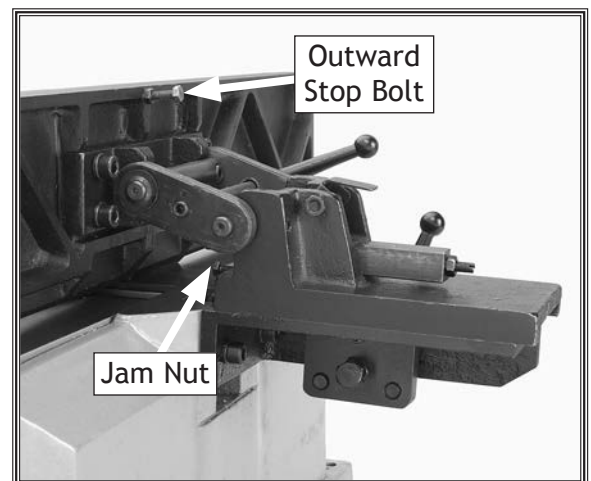

Figure 48. Outward stop bolt detail.
5. With the outward stop bolt resting against the fence bracket, use an 8mm wrench to adjust the length of the stop until the fence is at 45°, then tighten the jam nut (see **Figure 48**).